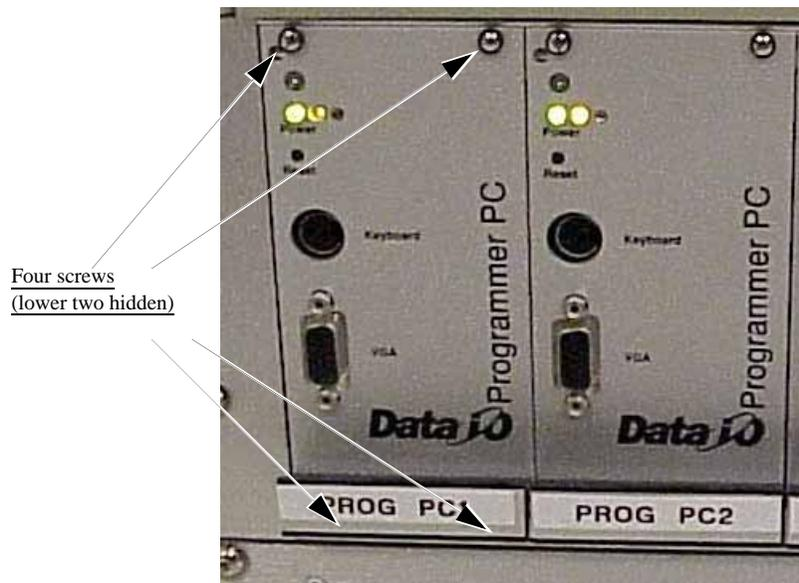

Figure 6-33—Four screws holding Programmer Computer in rack
- 2a) Remove the four screws that hold the Programmer Computer in the rack. See Figure 6-33.